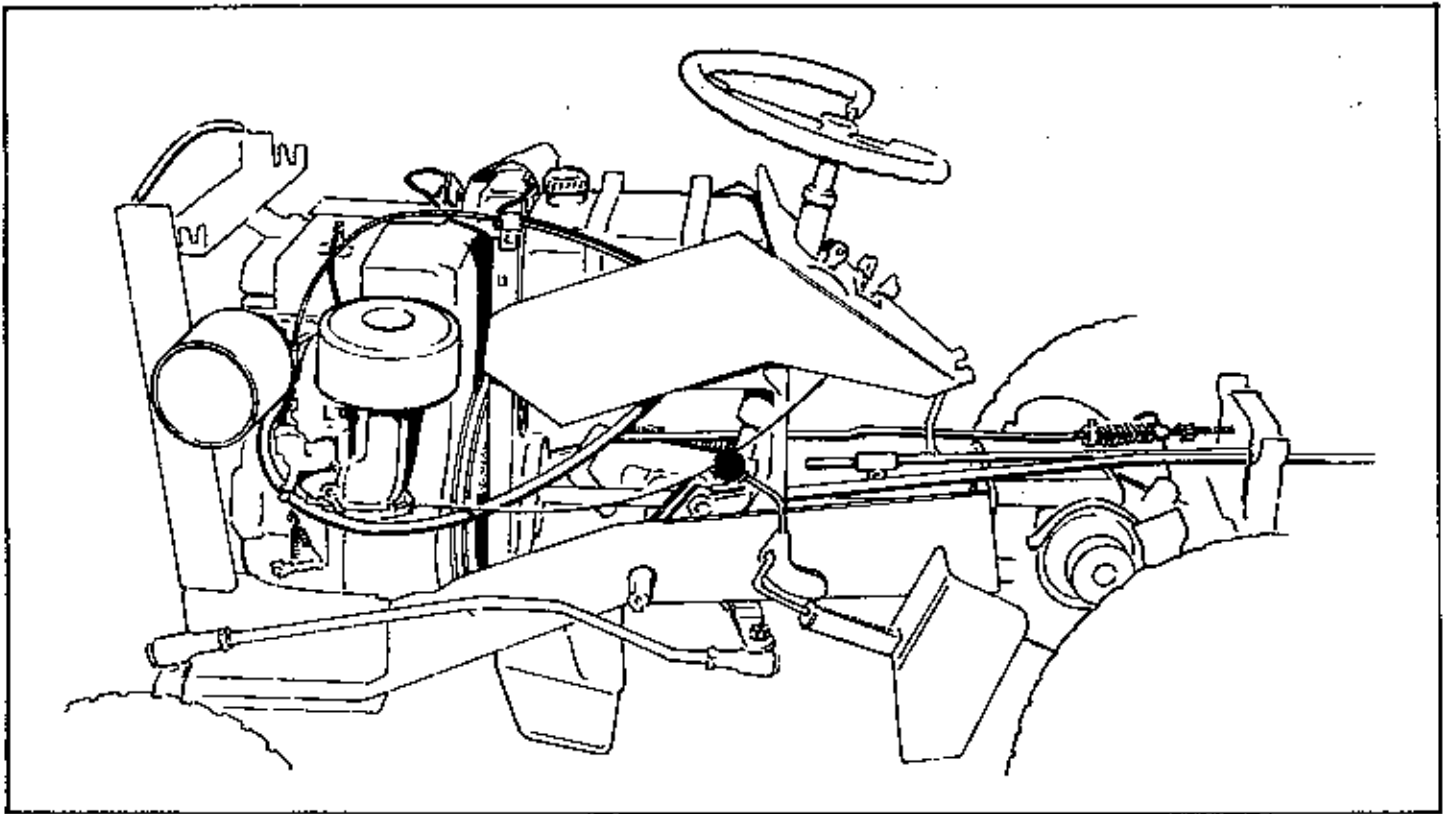

FIGURE 1
- A. Remove hood, side panels, battery, and shut gasoline valve below tank and disconnect gasoline hose, (Fig. 1), remove dash support assembly screws, frame from tractor, left handle, and quadrant.